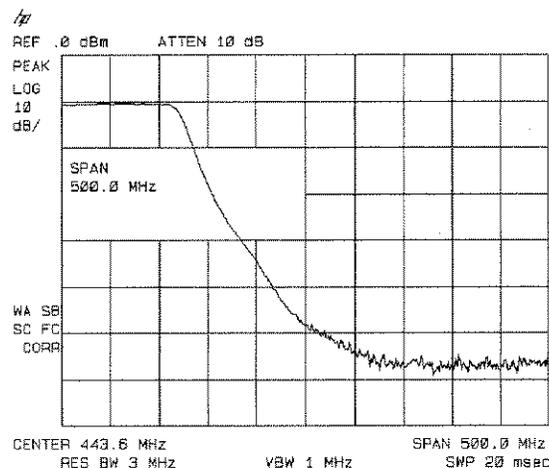

Figure 4-6. Spectrum Analyzer Settings According to the Measurement Requirement
- Since we are only interested in the rejection of the low-pass filter, tune the spectrum analyzer's center frequency so that the roll-off of the filter comprises the majority of the trace on the display (see Figure 4-6).